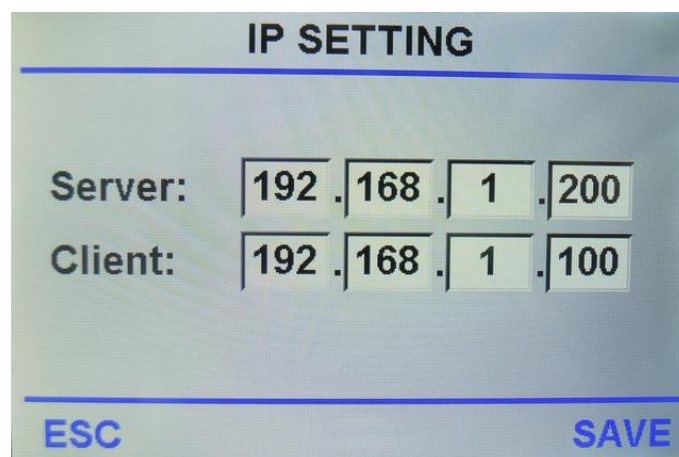

Fig.59
- b) Go to the user setting User Settings---General Settings---IP Address and set the IP address as Fig.59